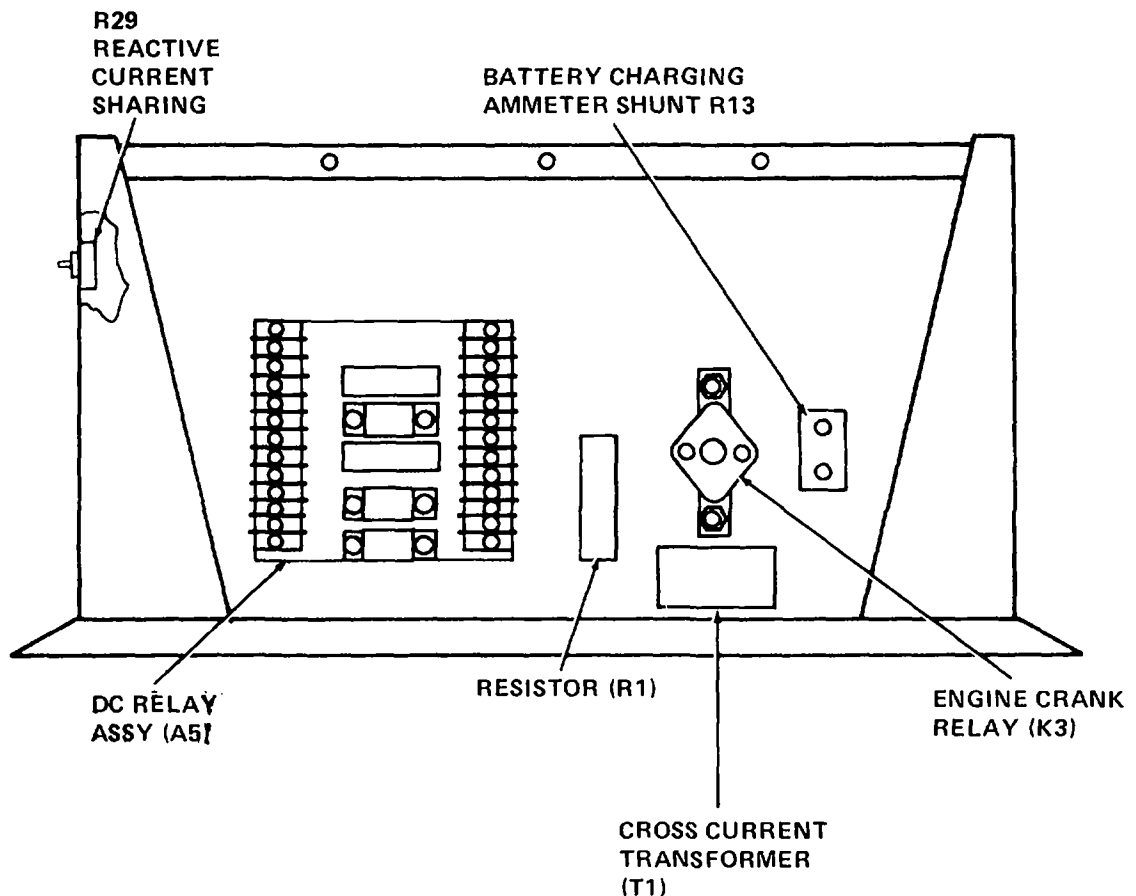

Figure 6-4. Mode I Relay Box Assembly A27, Cover Removed
- a. Remove cover from A27 to gain access to test points (refer to figure 6-4).